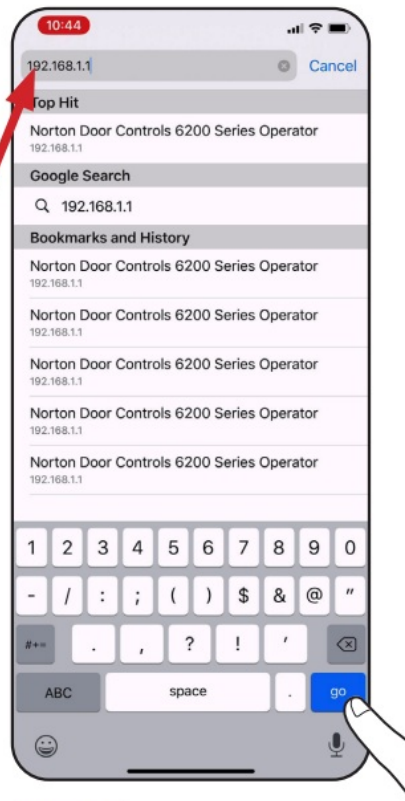

Figure 14
4. From your web browser, enter 192.168.1.1 into search bar. (Figure 14)